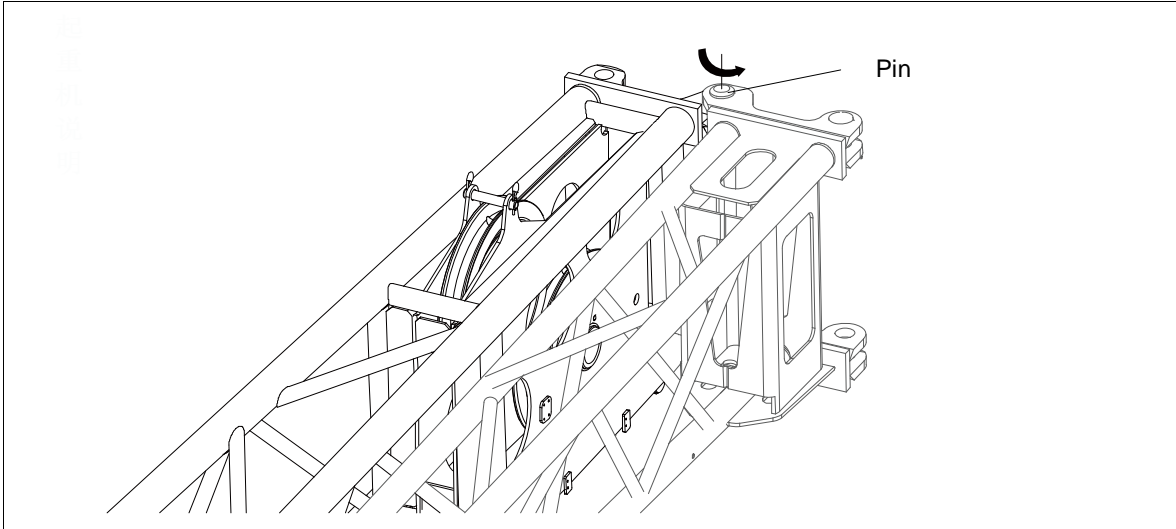

Figure 7-43 Move the jib section 2
- P. Move the jib section II (pivots on pin VIII) to the front of the jib section 1. Refer to Figure 7-43.